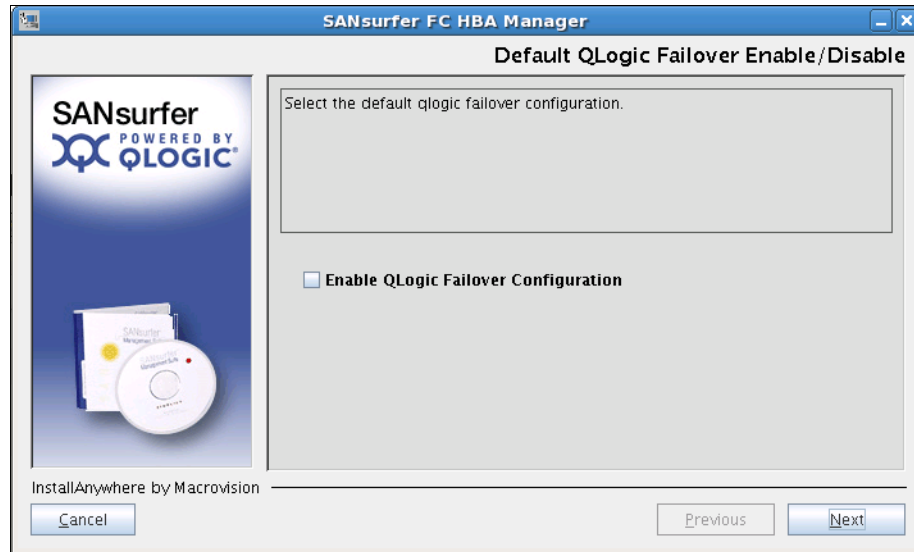

Figure 18-2 Linux SANsurfer installation
4. Confirm the first windows that open by clicking **Next**, and select the components to install. Continue the installation process. Do *not* select **Enable QLogic Failover Configuration** because we are planning to install RDAC as the multipath driver. For more information, see Figure 18-2.